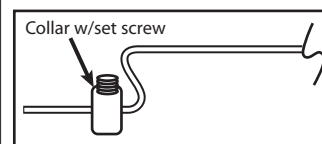
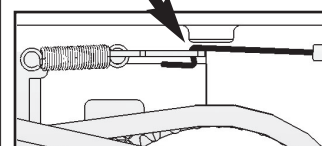

Figure 4
Figure 5
- Using 2 pliers, twist wire in opposite directions (Figure 4).
- A 1. Slide 1 collar w/set screw over the control cable (Figure 4). (reorient the spacer bracket as necessary)(Figures 5, 6 & 7).
2. Insert the control cable through the hole in the Spacer Bracket on the Operator (Figure 5 & 6).